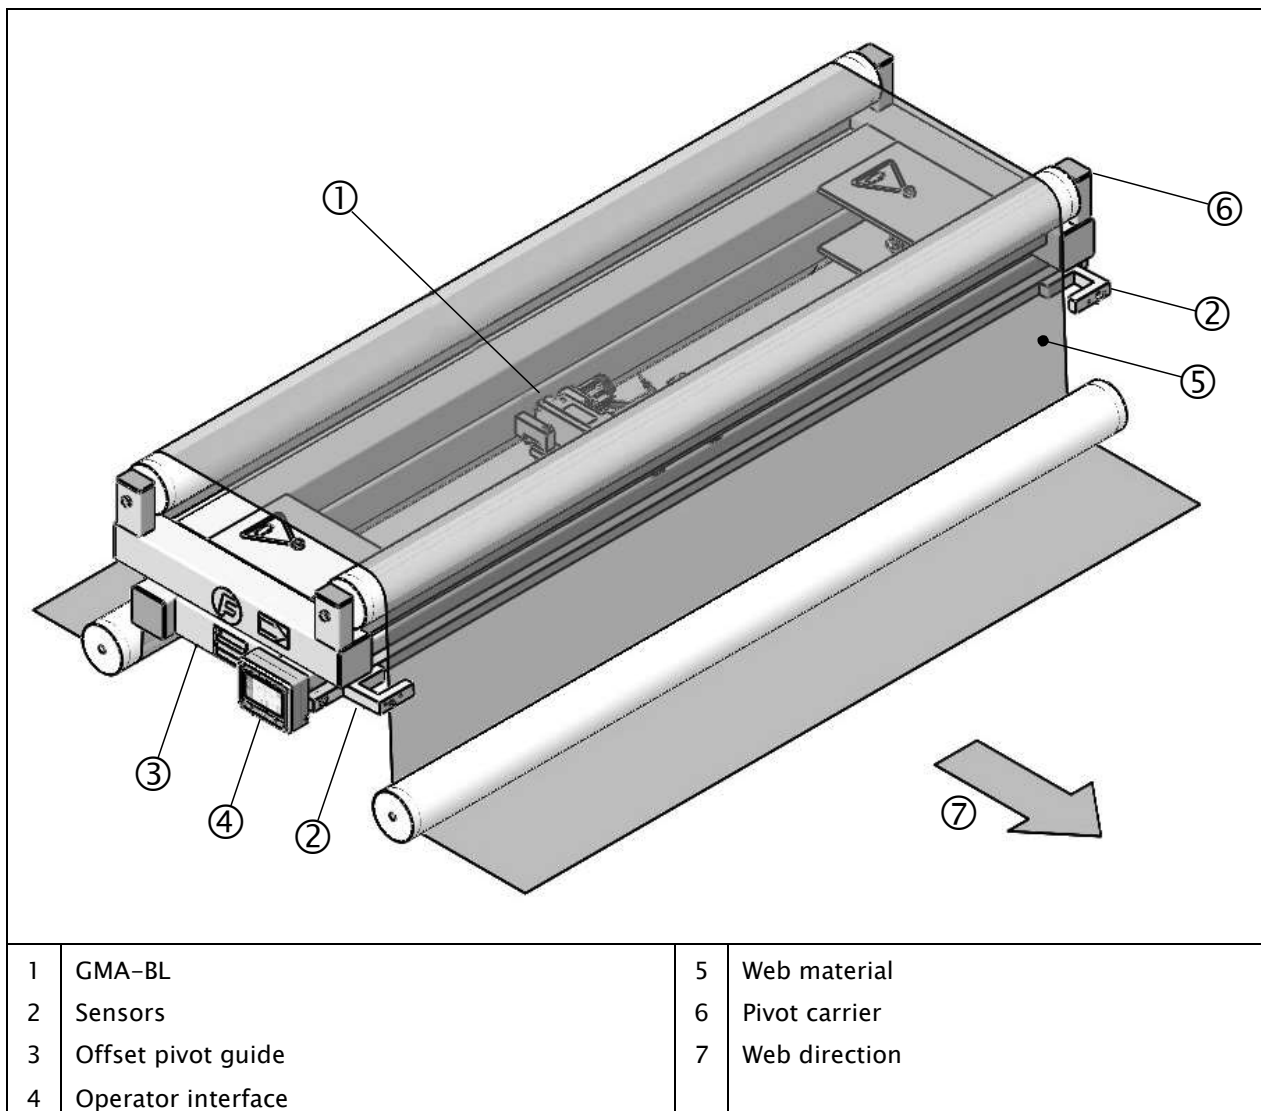

Figure 1. Application Example for the GMA-BL Actuator Controller
An example center guiding application is shown in Figure 1. The sensors (2) sense the edges of the web material (5) and determine the actual position of the web. The GMA-BL Actuator Controller (1) receives this information and guides the pivot carrier (6) of the offset pivot guide (3) by means of the linear actuator so the web material is always in the desired target position. The operator interface (4) provides a means of controlling and configuring the GMA-BL Actuator Controller using a color LCD display and touchscreen.